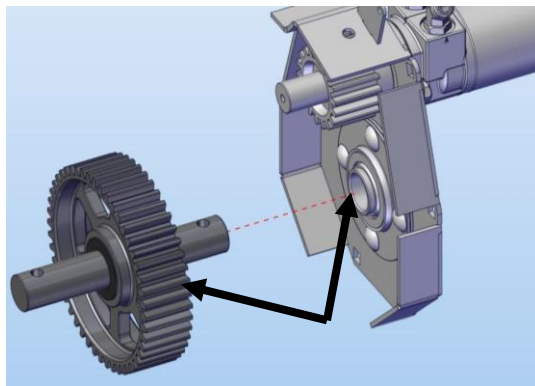

Figure 256
9. Install the output shaft in the gearcase. Figure 256